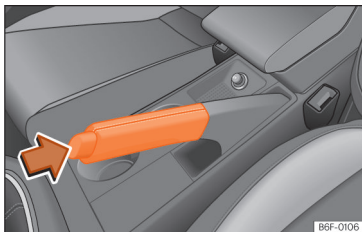

Fig. 118 Handbrake between the front seats.
- Pull the handbrake lever up >>> **Fig. 118**.
- Pull the lever slightly up, press the unlock button in the direction of the arrow >>> **Fig. 118** and lower the lever completely >>> **△**.